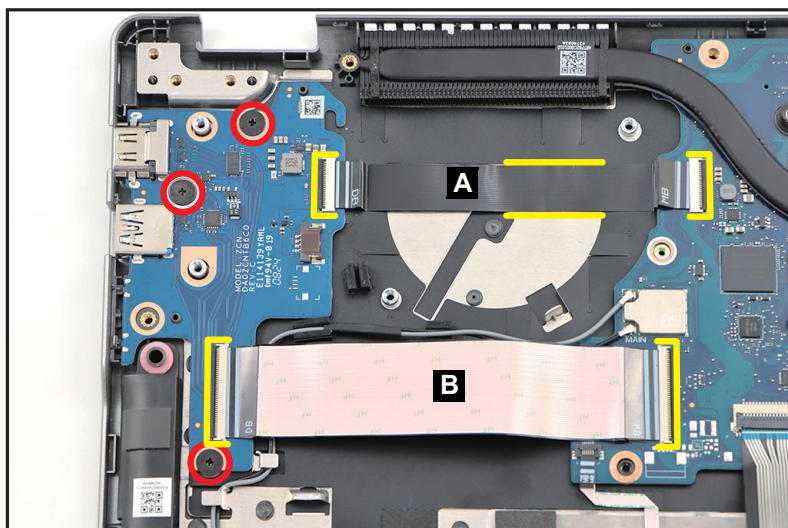

Figure 1-23. USB Board Removal
1. Disconnect the USB board FFC (low speed) (A) from the USB board and mainboard connectors. Then carefully detach the portion of the FFC from its underneath adhesive and remove it from the top assembly (Figure 1-23).
2. Disconnect the USB board FFC (high speed) (B) from the USB board and mainboard connectors. Then remove it from the top assembly (Figure 1-23).
3. Remove three (3) screws securing the USB board in place (Figure 1-23).